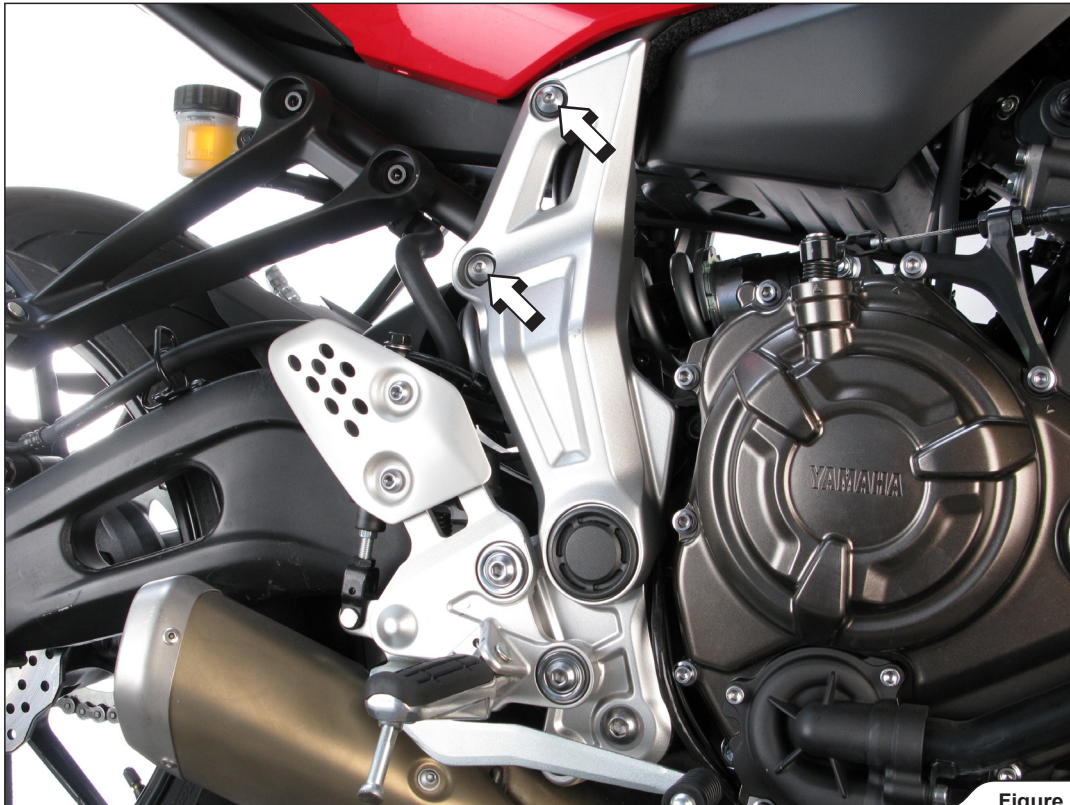

Figure 1
2. Unscrew the marked bolts and carefully remove the plastic shield off the motorcycle (**Figure 1**).